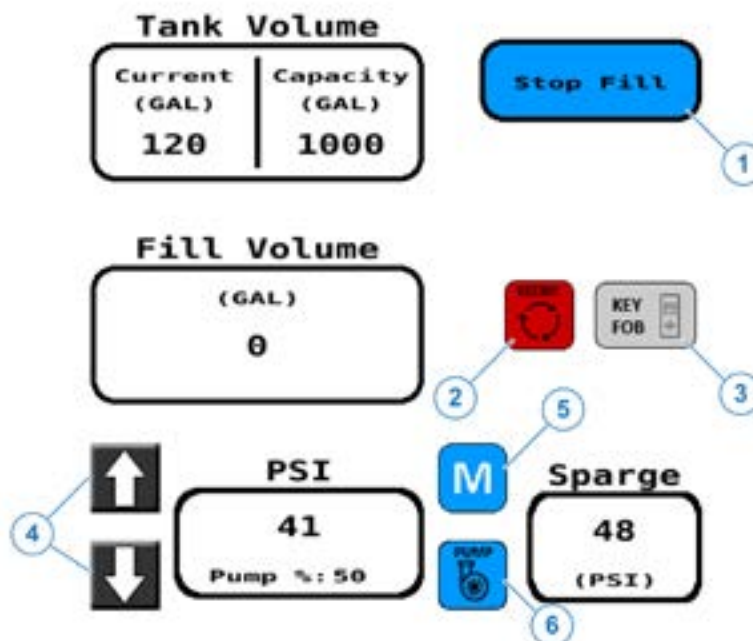

Figure 37: Fill Station Monitor Buttons
1. The Start/Stop Fill Button (Figure 37, Item 1) begins/ends the fill process. Tapping this button will automatically enable/disable the pump and place the sprayer into Manual pressure control.
2. Boom Recirculation (Figure 37, Item 2) can be toggled here if equipped.
3. Key Fob mode (Figure 37, Item 3) can be toggled here as needed.
4. The Pump PWM % can be manually adjusted using the up/down arrows (Figure 37, Item 4).
5. If desired, the pump can be taken out of Manual Mode by tapping the Manual button (Figure 37, Item 5) to control to the pressure setpoint last selected on the PinPoint III VT Home screen.
6. The Pump can be enabled/disabled manually by tapping the Pump button (Figure 37, Item 6).